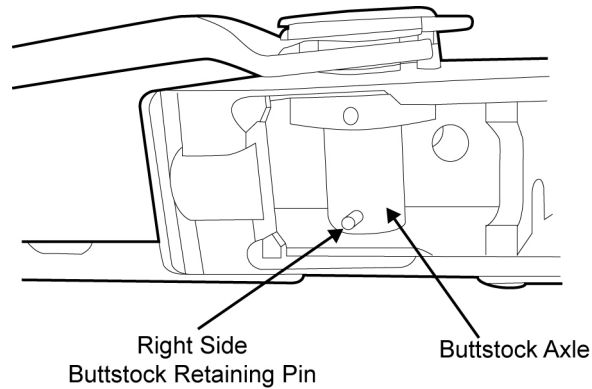

Figure 31. Removing the Right Side Buttstock Retaining Pin.
- d. Remove the right side buttstock retaining pin from the buttstock axle. Needle nose pliers may be necessary. Refer to Figure 31.